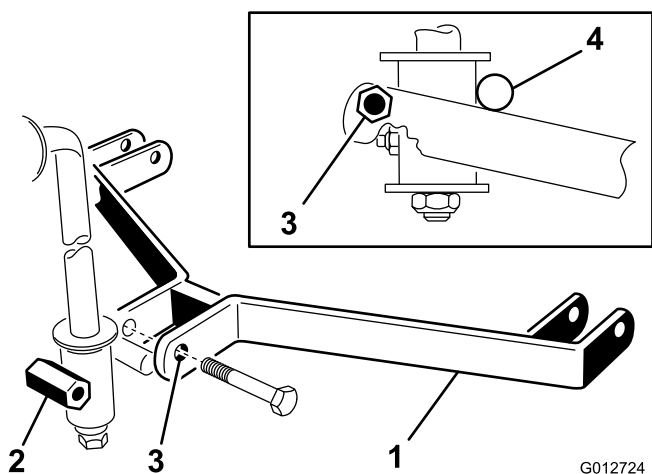

Figure 10
1. Align the mounting holes in the drawbar with the mounting hole in the lift bail housing. When installing the drawbar, the offset hole in the drawbar should be positioned up and the lift bail stop should be on the top of the drawbar (Figure 10 and inset).